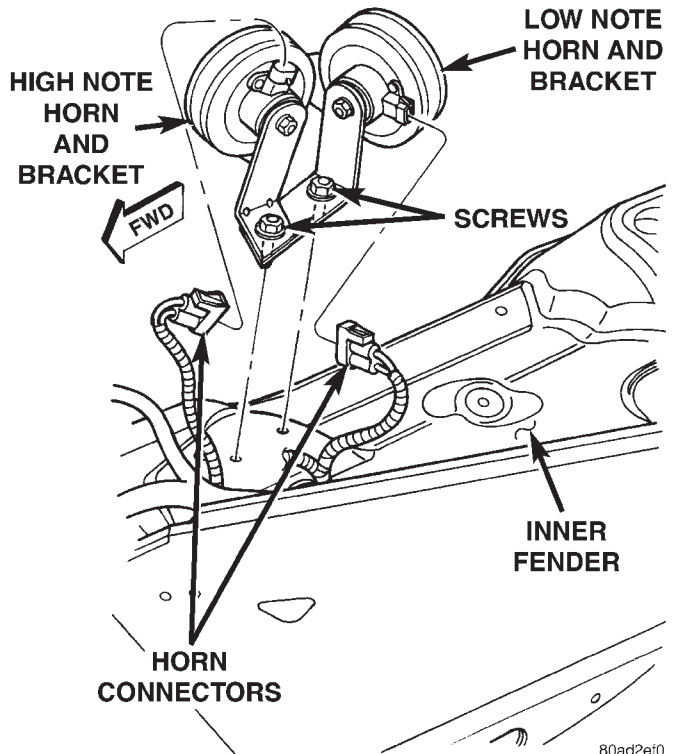

Fig. 3 Horn(s) Remove/Install
(1) Disconnect and isolate the battery negative cable.
(2) Open the hood and locate the horn(s) on the top of the left inner fender shield near the front of the engine compartment.
(3) Unplug the wire harness connector(s) from the horn(s) (Fig. 3).
(4) Remove the two screws that secure the horn mounting bracket(s) to the left inner fender shield.
(5) Remove the horn(s) and mounting bracket(s) from the vehicle.
(6) Reverse the removal procedures to install. Tighten the horn mounting bracket screws to 20 N·m (15 ft. lbs.).